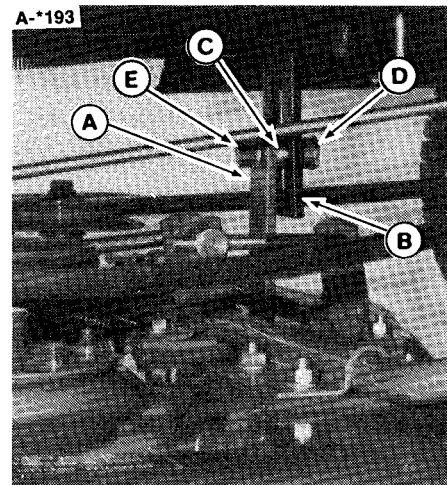

Figure 22. Mower Upstop Bracket - 36\"
3. Slide the mower back toward the left and forward to align mower bracket (A, figure 22) in front of upstop bracket (B). (If drag link interferes with hitch, push hitch up for clearance.)
- Apply a little grease to the inside of the spacer (C, figure 22) and place the spacer on the bolt (D). Install the bolt thru the upstop bracket and mower bracket from the rear. Install the locknut (E) and tighten securely. The spacer (C) must ride inside the upstop bracket (B).
3. Remove the bolt, spacer, locknut from the mower bracket (A, figure 22).
2. Remove the bolt, spacer, lockwasher and nut from the mower bracket (A, figure 22 on page 27).
7. Remove the belt. Push brake away to slip belt off pulleys. Slide the mower to one side to slip belt between mower bracket and upstop bracket (B, figure 22).